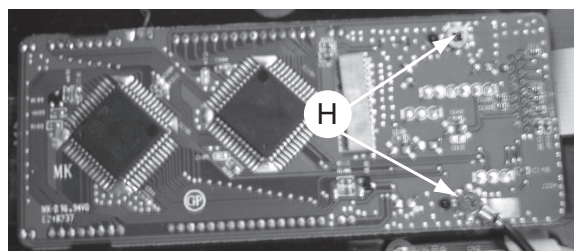

Figure 9
- 1) Loosen 2 screws "H" to remove Display board as shown in figure 9.